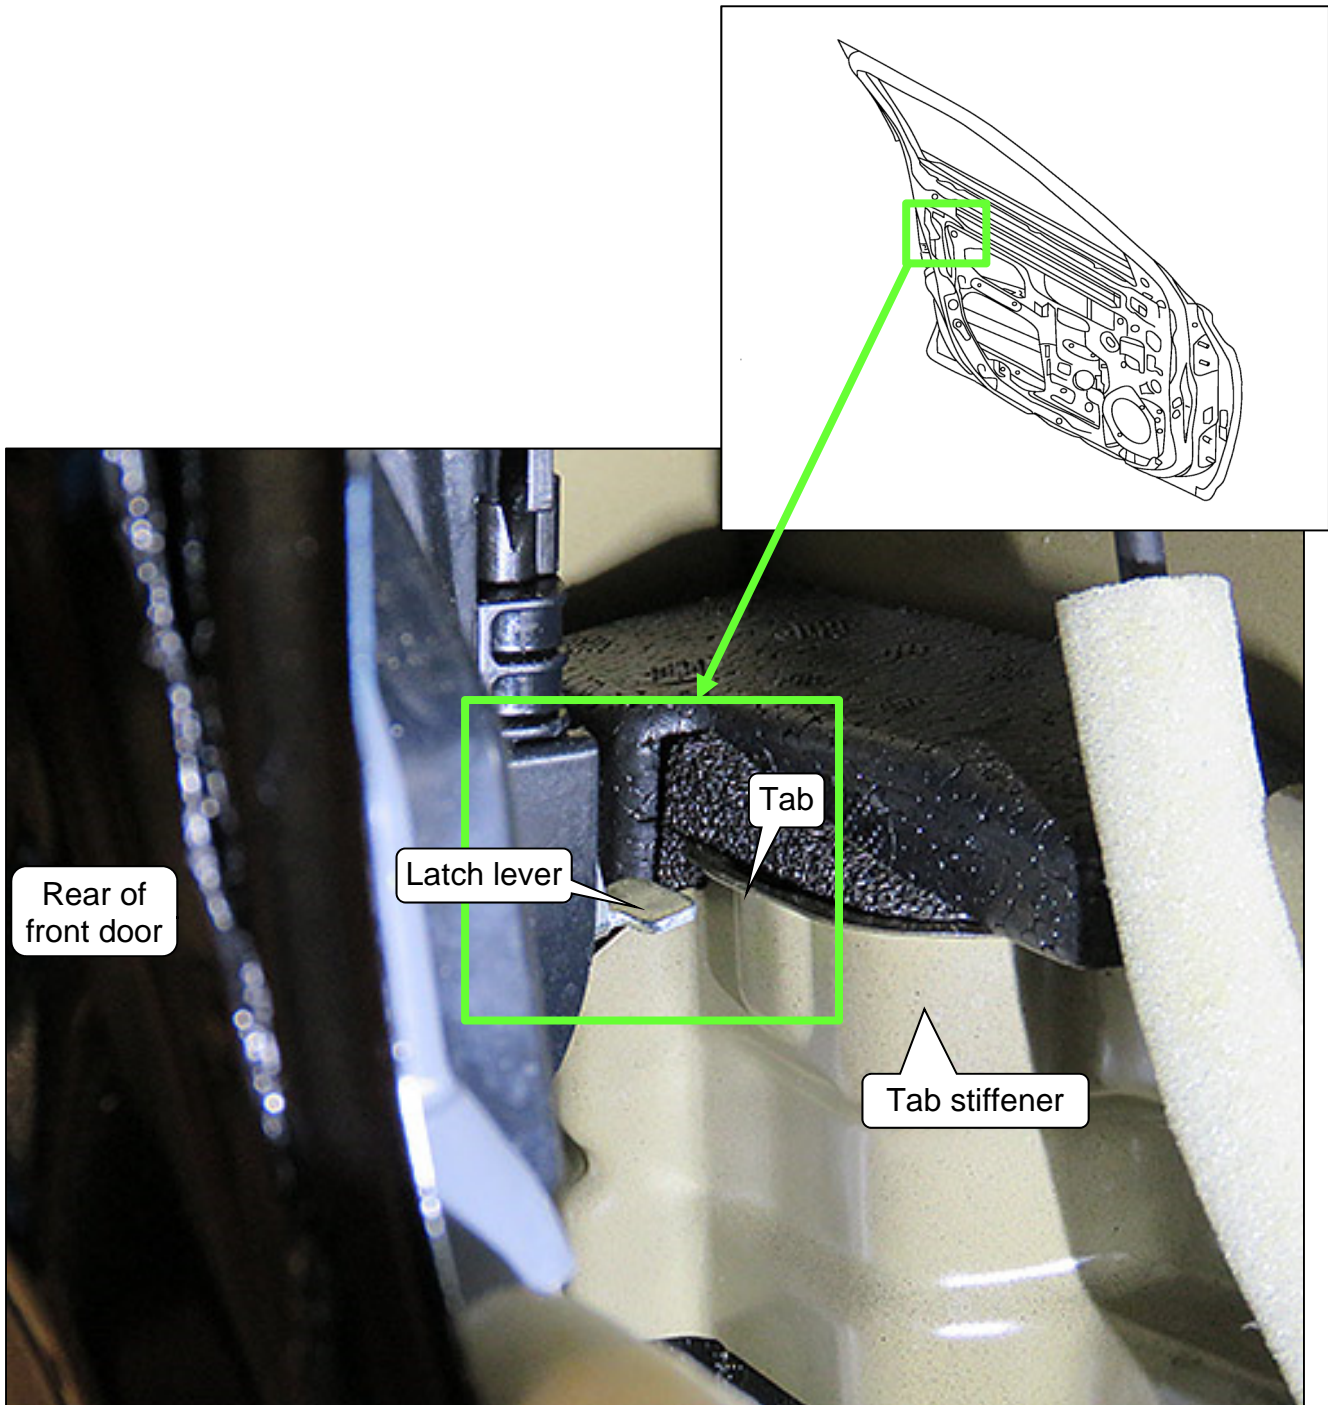
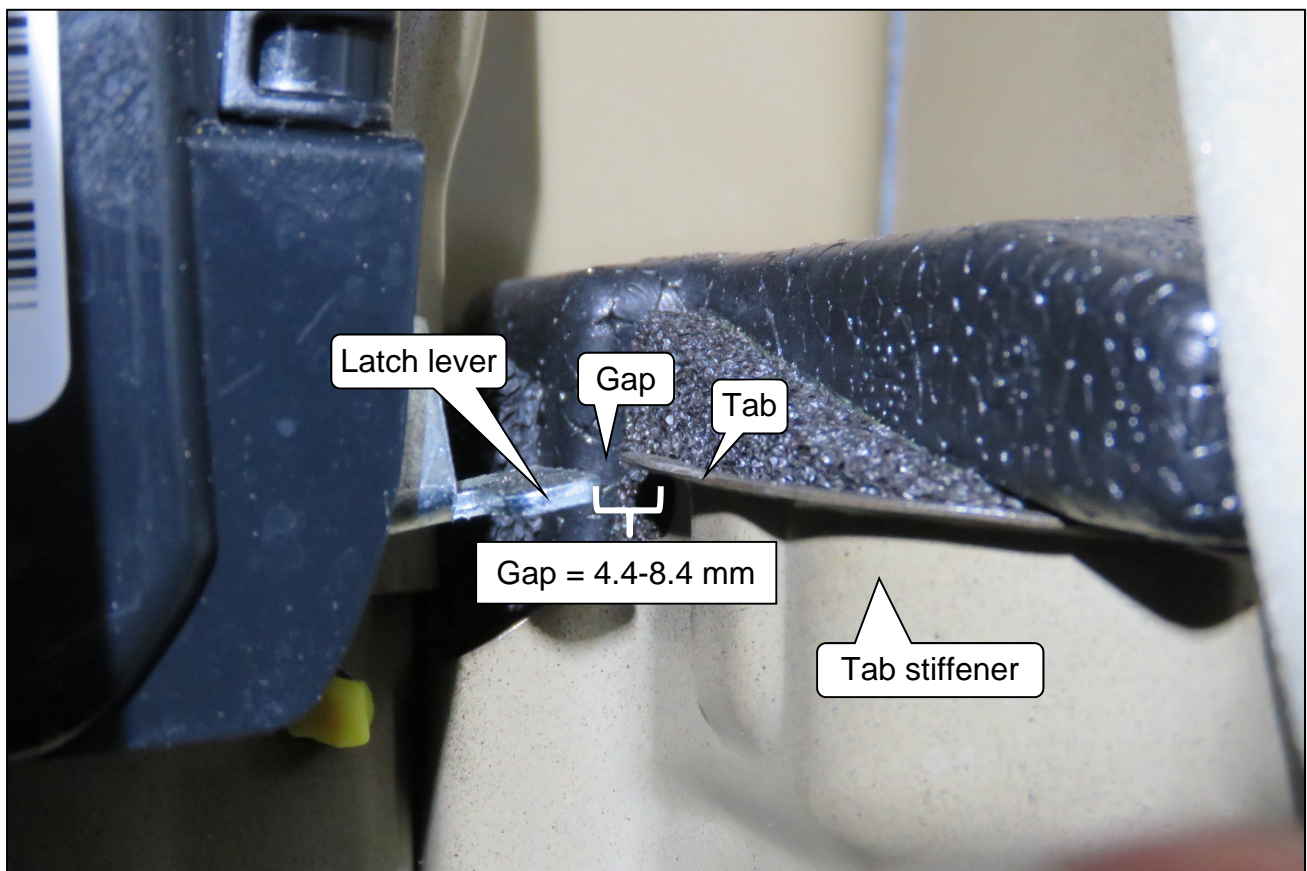

Figure 13
Figure 14
- Refer to Figure 13 below, and Figure 14 on the next page.
29. With the latch lever and tab still level with each other (Figure 14), measure the gap between the latch lever and the tab.
- After adjusting the gap, adjust the tab as necessary to a level position (see Figure 14 on page 15).